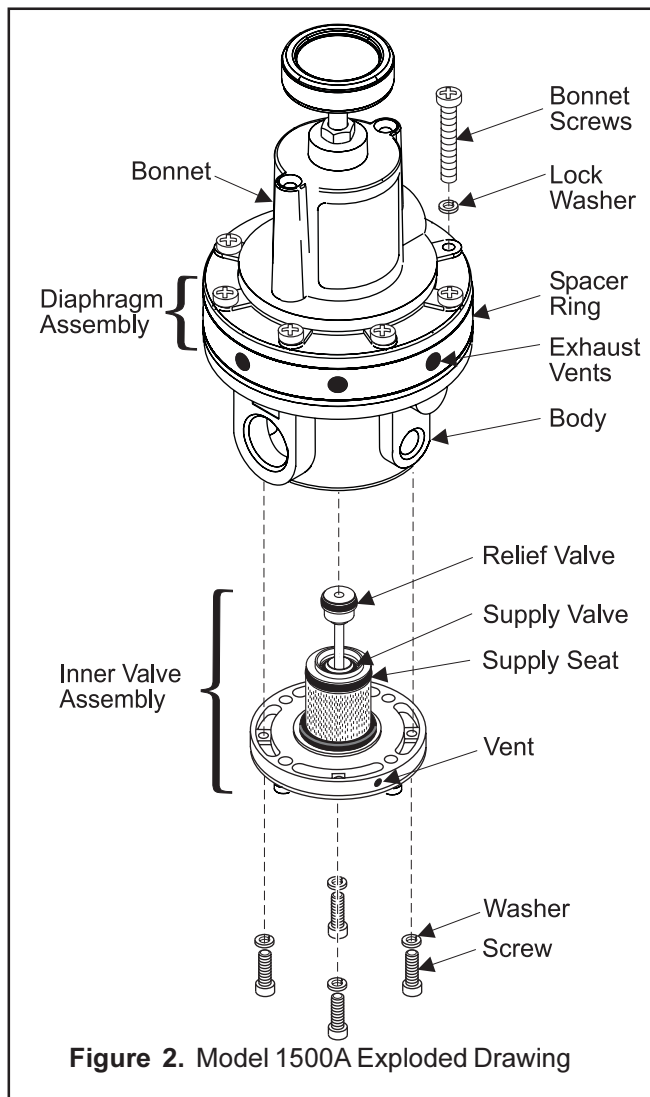

Figure 2. Model 1500A Exploded Drawing
2. Remove the four Screws and Washers (between ports) from the bottom of unit. For more information, see Figure 2.
3. Remove the Inner Valve Assembly. For more information, see Figure 2.
5. Replace the assembly carefully. Ensure that the Vent in the exterior part of the Inner Valve Assembly and the Exhaust Vents in the Spacer Ring are clear. For more information, see Figure 2.